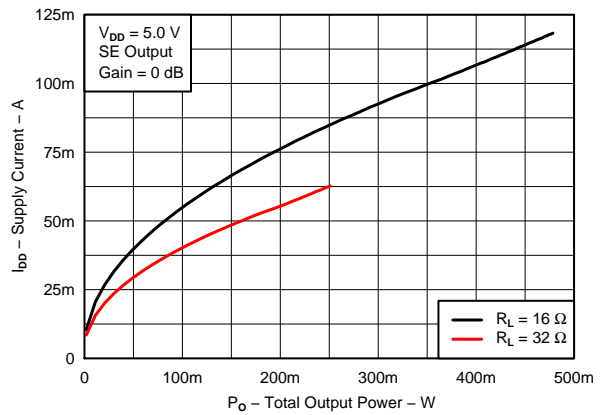

Figure 19.
| I_{DD} | Supply current (SE) | vs Total output power | Figure 19 |